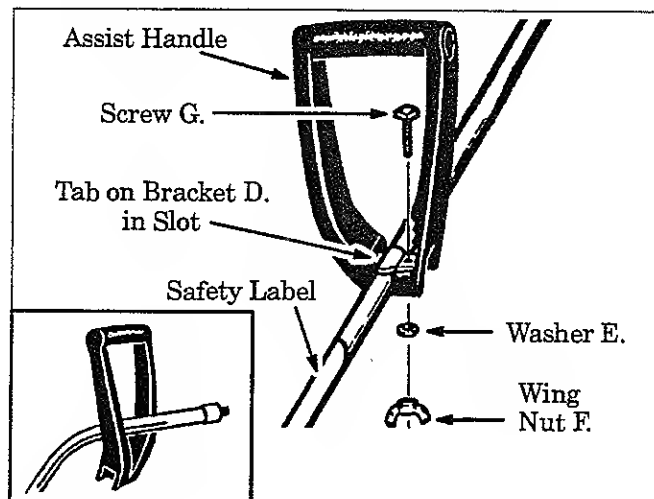

Figure 3
- Align the assist handle between the safety label and the engine. Figure 3. Seat the tube in the groove in the assist handle. Figure 3.
- Insert the tab on assist handle bracket "D." into the slot on the assist handle. Figure 3. Then, lay the bracket "D." over the tube.
- Insert screw "G." down through the screw hole in bracket "D." and the assist handle. Figure 3.
- Assemble washer "E." and wing nut "F." onto the screw. Figure 3. Tighten securely.